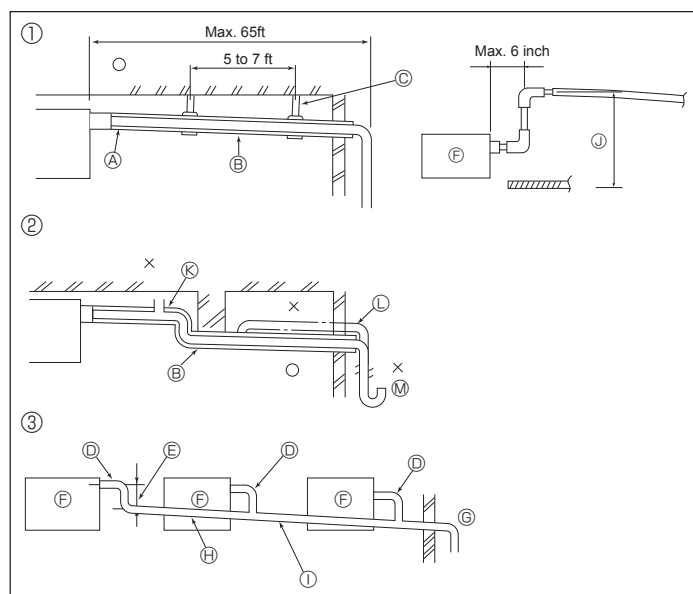

Fig. 5-1
5.1. Drainage piping work (Fig. 5-1)